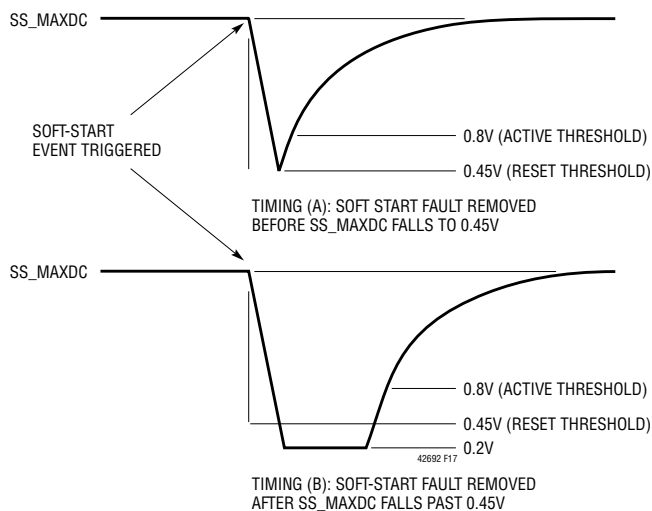

Figure 17. Soft-Start Timing
It can be seen in Figure 17 that two types of discharge can occur for the SS_MAXDC pin. In timing (A) the fault that caused the soft-start event has been removed before SS_MAXDC falls to 0.45V. This means the soft-start latch will be reset when SS_MAXDC falls to 0.45V and SS_MAXDC will begin charging. In timing (B), the fault that caused the soft-start event is not removed until some time after SS_MAXDC has fallen past 0.45V. The SS_MAXDC pin continues to discharge to 0.2V and remains low until all faults are removed.